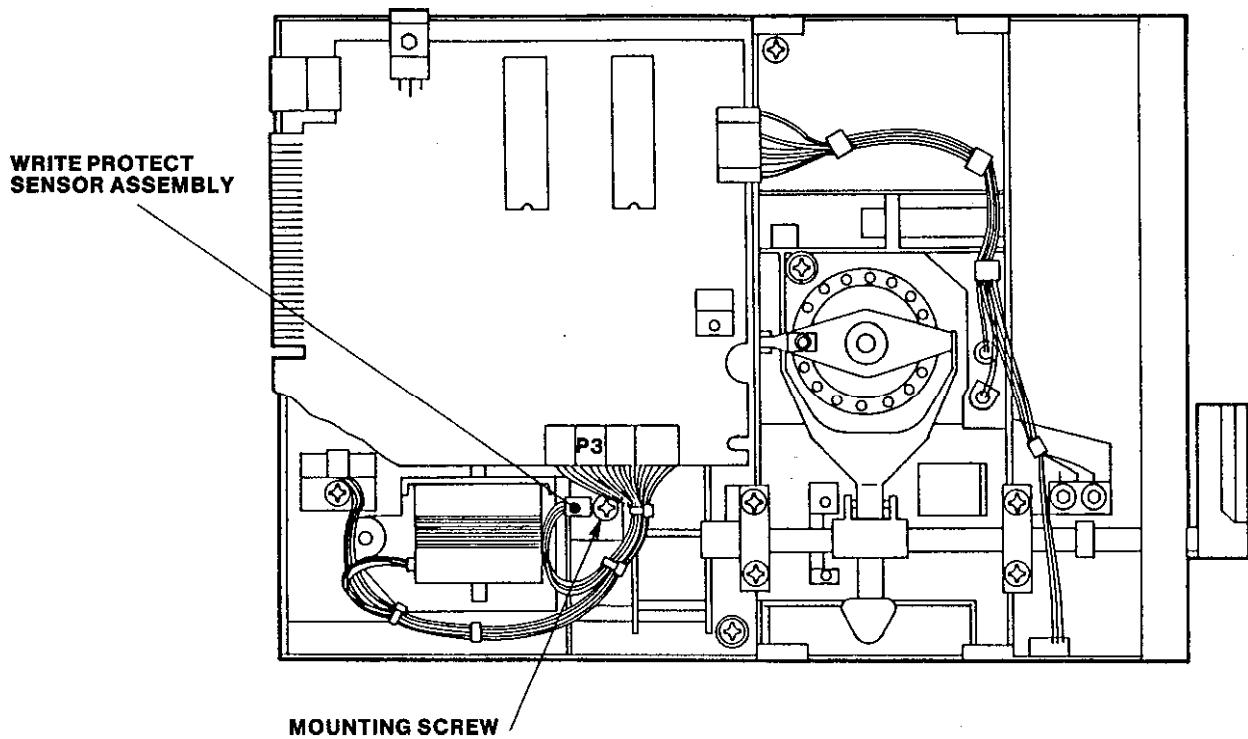

FIGURE 6-12
2. Remove the mounting screws attaching the Write Protect Sensor Assembly to the chassis (see Figure 6-12).